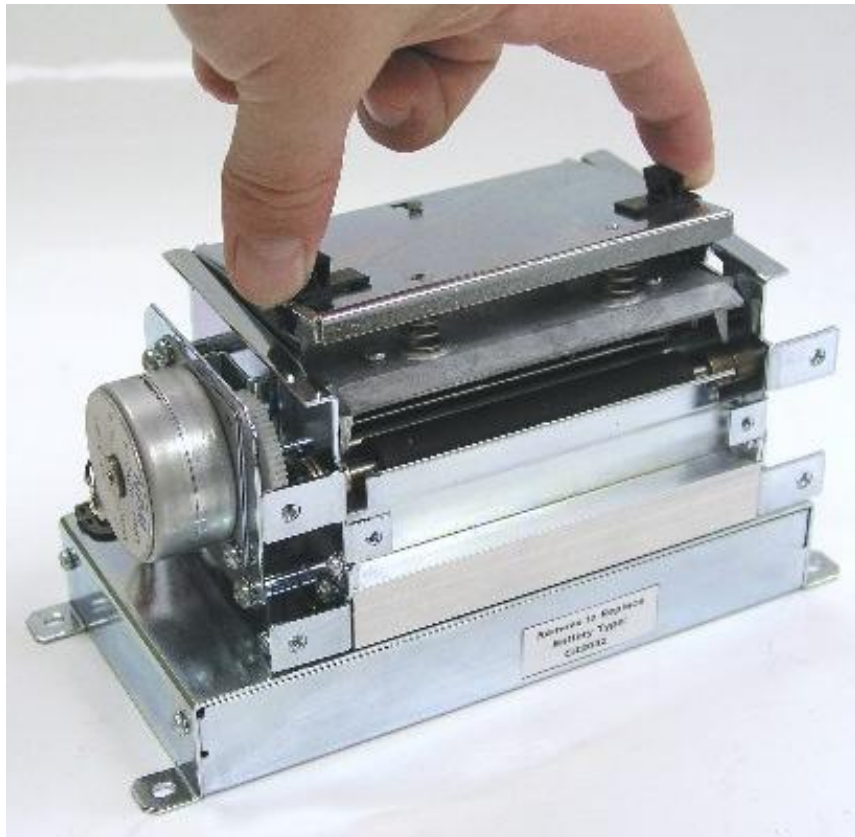

Figure 20 Unlatching the Print head
3. Push the *Head Release Levers* towards the center of the printer and insert the card into the front of the printer between the print head and the drive roller (See Figure 20).
3. Using the two *Head Release Levers* (See Figure 20), unlatch and raise the print head.
If print quality has not improved after cleaning (using a thermal cleaning card, or if one is not available) foam or cotton tipped swabs dampened in isopropyl alcohol may be used. Refer to Figures 20 and 23 and follow the steps below for the proper cleaning procedure.
3. Using the two *Head Release Levers* (Figure 20), unlatch and raise the print head.